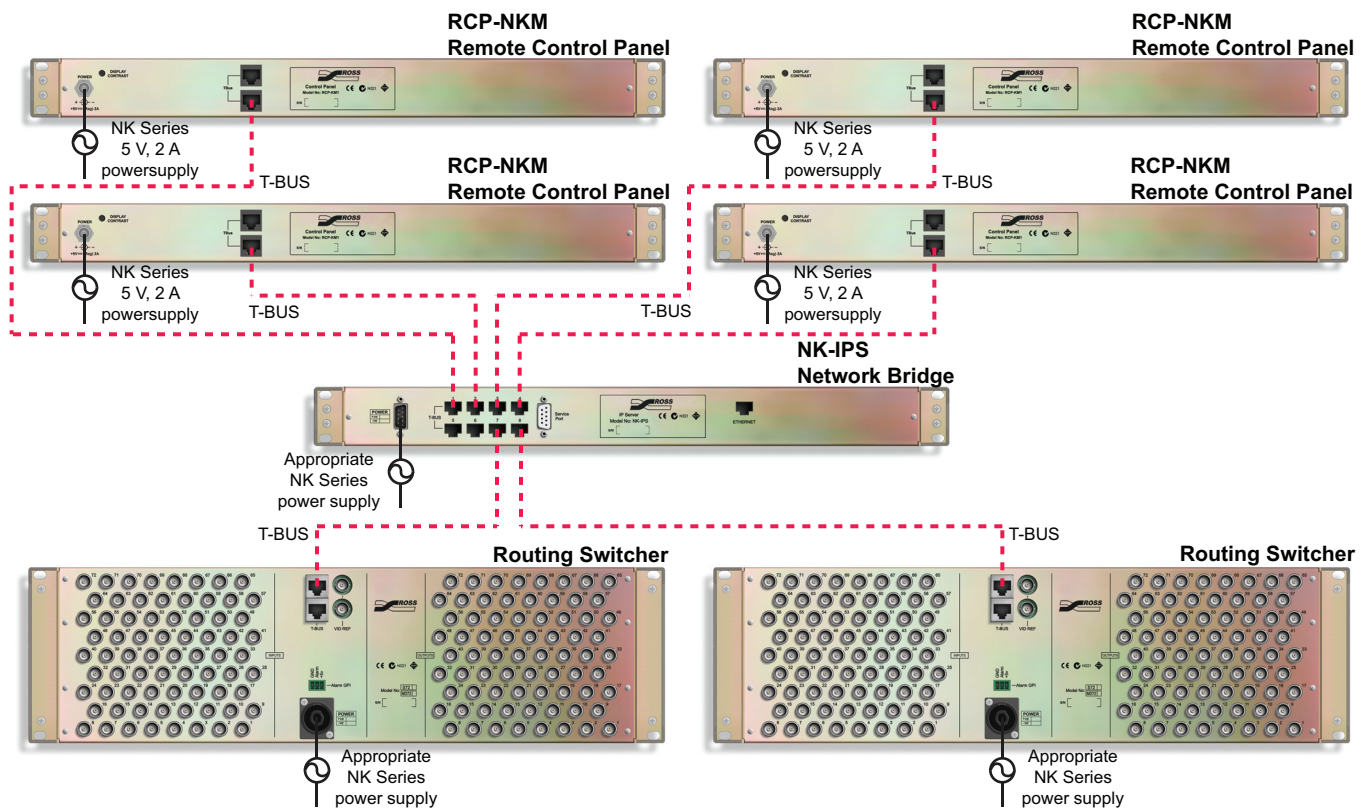

Figure 3.3 Remote control panels connected to NK Series equipment in a star layout
2. Connect a straight CAT5 Ethernet cable between a **T-Bus** connector on the rear panel of the RCP-NKM and a **T-Bus** connector on the rear panel of the NK-IPS (see **Figure 3.3**).